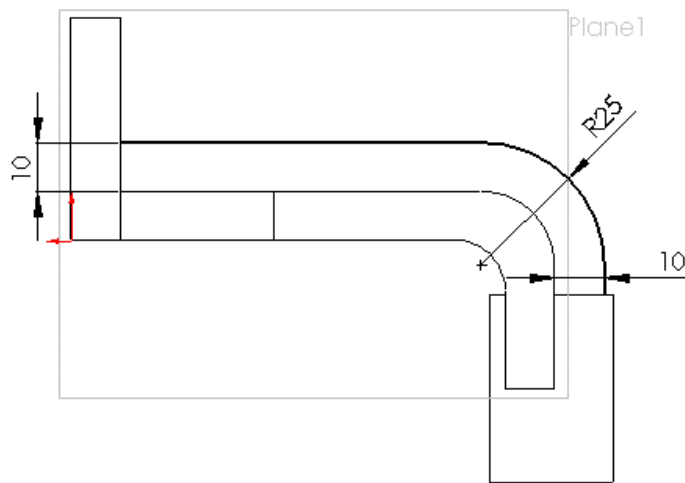

Figure 7-72 Sketch for the rib feature
- h. Create the rib feature, refer to Figures 7-72 and 7-73.
5. Create the sketch for the rib feature and add the required relations and dimensions to the sketch as shown in Figure 7-72.